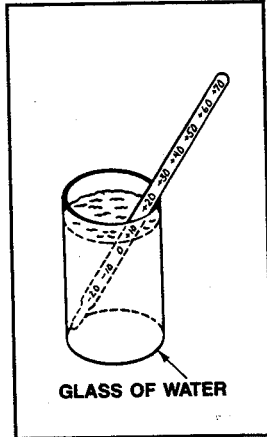

FIGURE 39
**REFRIGERATOR:** Place the thermometer in a glass of water and place the glass in the middle of the refrigerator section. See Figure 39. Be sure air can flow around it. Wait 3 to 4 hours, check the temperature and adjust the control one number at a time as needed to within the 38° to 40°F range. Wait 3 to 4 hours and check the temperature again.